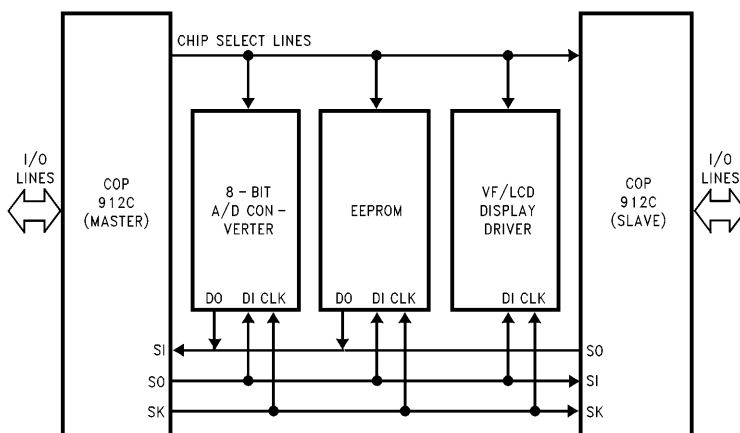

FIGURE 5. MICROWIRE/PLUS Application
MICROWIRE/PLUS is a serial synchronous communications interface. The MICROWIRE/PLUS capability enables the device to interface with any of National Semiconductor's MICROWIRE peripherals (i.e., A/D converters, display drivers, EEPROMS etc.) and with other microcontrollers which support the MICROWIRE interface. It consists of an 8-bit serial shift register (SIO) with serial data input (SI), serial data output (SO) and serial shift clock (SK). *Figure 5* shows a block diagram of the MICROWIRE logic.
Setting the BUSY bit in the PSW register causes the MICROWIRE/PLUS to start shifting the data. It gets reset when eight data bits have been shifted. The user may reset the BUSY bit by software to allow less than 8 bits to shift. The device may enter the MICROWIRE/PLUS mode either as a Master or as a Slave. *Figure 5* shows how two microcontrollers and several peripherals may be interconnected using the MICROWIRE/PLUS arrangement.